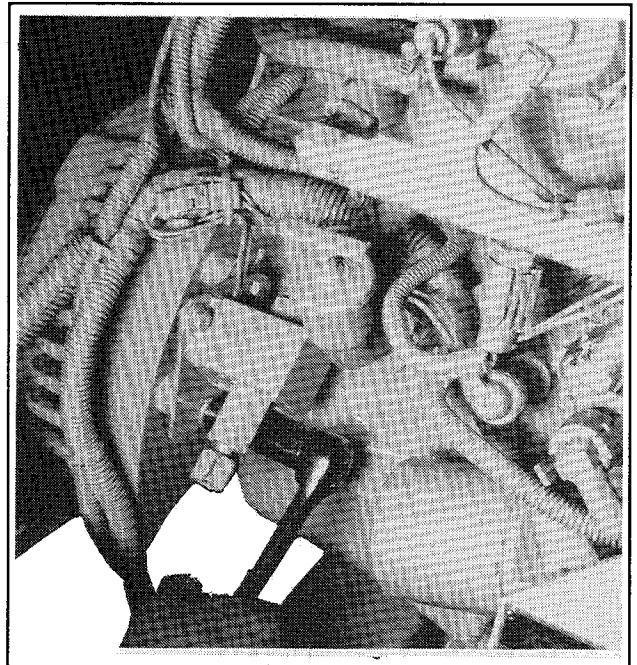

**Figure 10-10. Removing Adapter Panel**
13. Remove four bolts and lock washers securing adapter panel to adapter. See Figure 10-10.